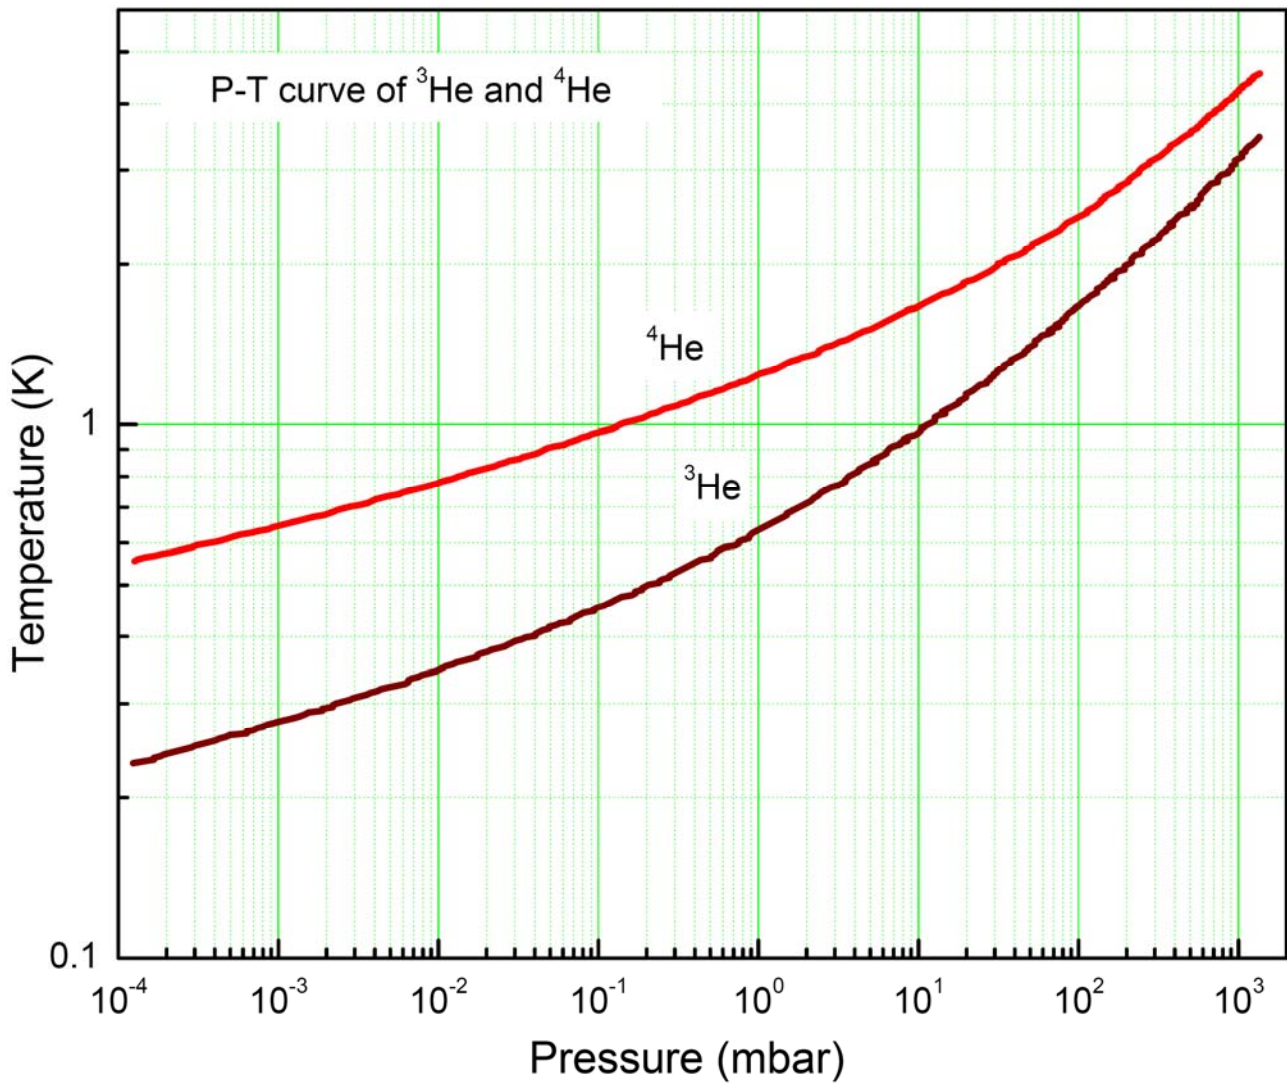

Fig. 5. P-T curve of two isotopes of Helium.
5. Fig. 5 details the P-T curves of the two helium isotopes.